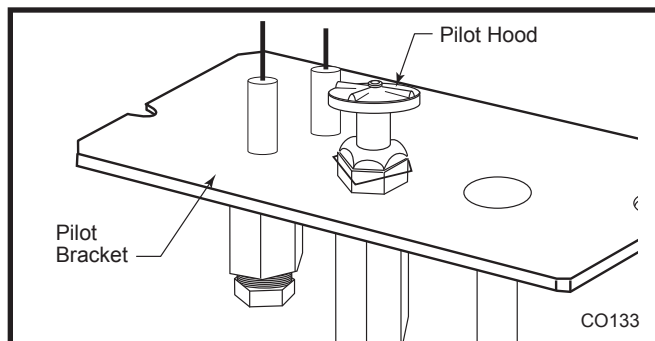

Fig. 55 Remove pilot hood.
1. Remove pilot hood by lifting up. (Fig. 55) **NOTE:** It is not necessary to remove the pilot tube for conversion.